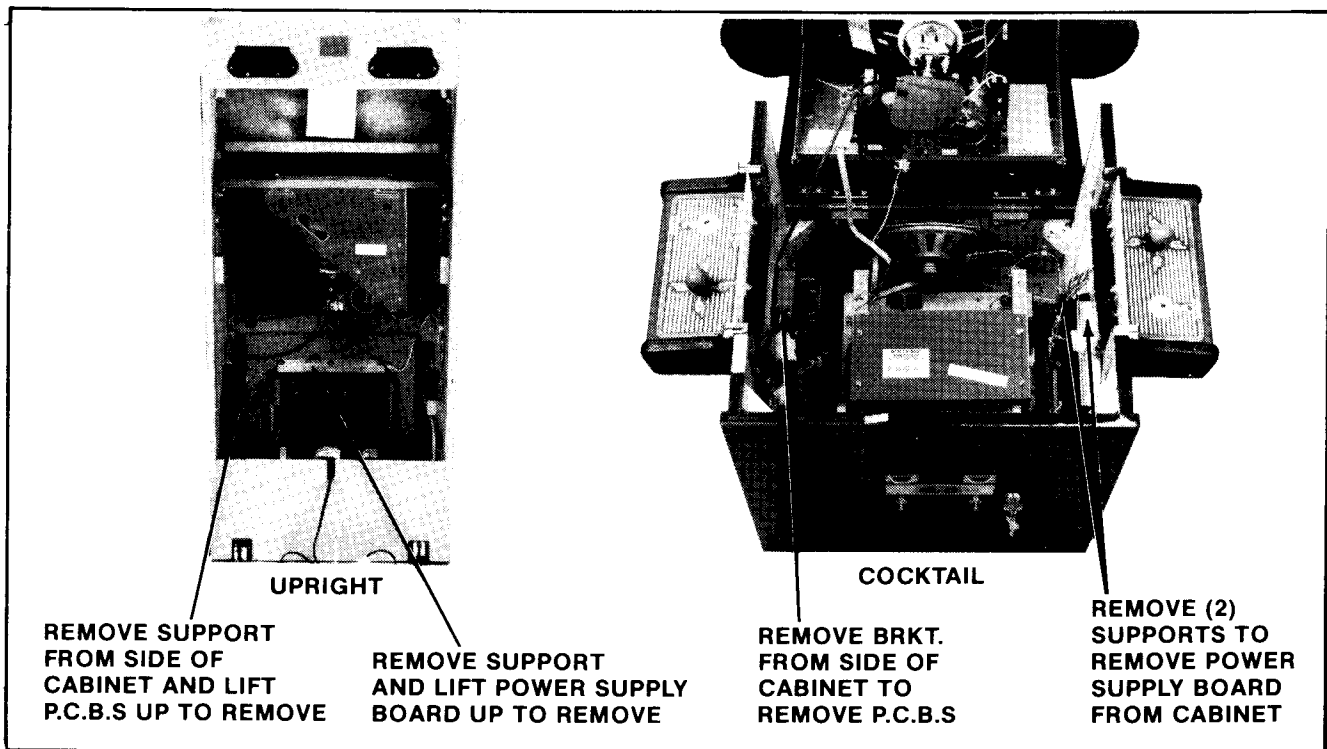

Figure 4-10 Removing P.C.B.s
1. UPRIGHT MODEL: See Figure 4-10.
- Disconnect the Power Supply board from all its cabling, remove the P.C.B. supports indicated in Figure 4-10, and slide it out the back of the cabinet.
2. COCKTAIL TABLE MODEL: See Figure 4-10.
- To remove the Power Supply Board. See Figure 4-10.